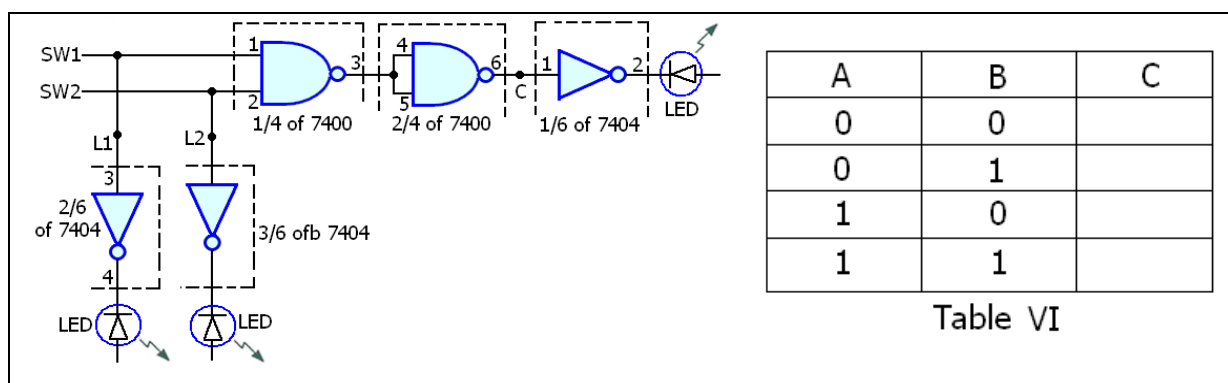

Fig. 1-5
15. Wire the circuit shown in Fig. 1-5. With SW1 (A) and SW2 (B), apply the states shown in Table VI. Record the state for each set of inputs. Observe LED indicators L1, L2, and L3 to obtain your input and output data. Use positive logic (binary 1 = ON, binary 0 = OFF).
17. Study the circuit in Fig. 1-5 and the data in Table VI. What logic function is being performed? .....